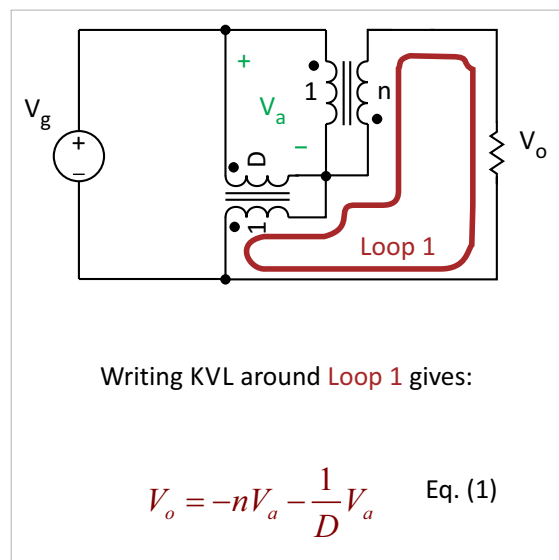

Figure 5: Solving for DC gain by applying KVL around the first loop of the tapped boost circuit.
Notice that the 1:D transformer of the DC model is not connected in a way that allows simple inspection for the circuit to find the gain. Solving the DC gain of the circuit is an exercise in applying Kirchoff's voltage law. Two voltage loops are identified for the circuit as shown in Figure 5.
First, we assign a value of V_a to the voltage across the two circuit transformers as shown in green. Then, moving around the loop in red, Equation (1) in Figure 5 gives the relationship between the output voltage and V_a .